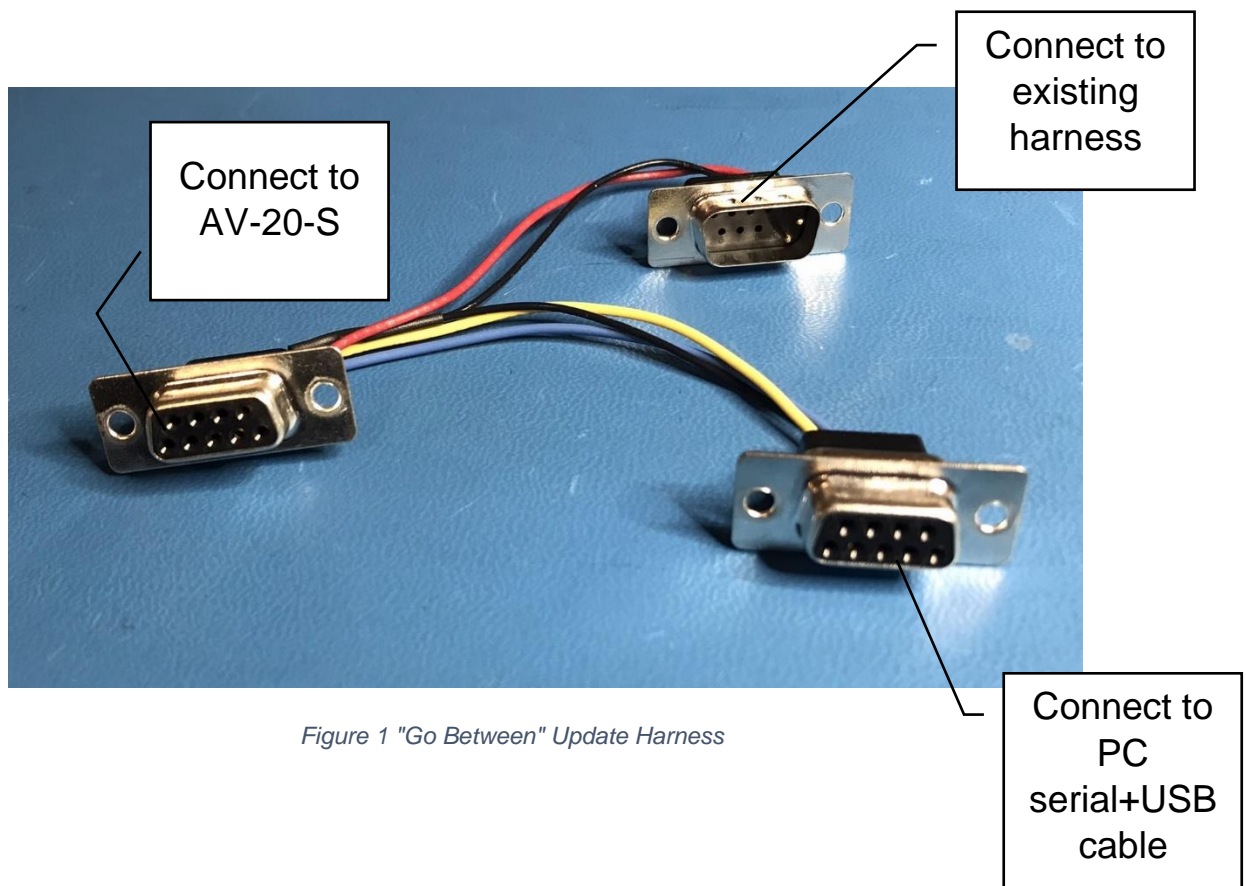

Figure 1 "Go Between" Update Harness
3. Option (2) "Go Between" harness
- b. Build the wiring harness with the materials with the materials from Table 3. A finished example is shown in Figure 1. The wiring schematic is shown in Figure 2.